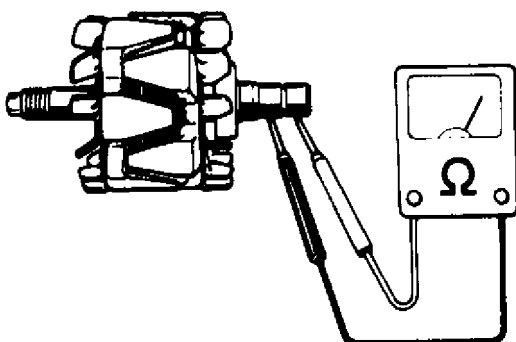

Fig. 3: Testing Rotor Continuity
1) Check rotor for open field windings by using an ohmmeter across slip rings. See Fig. 3. Resistance should be 2.8-3.0.